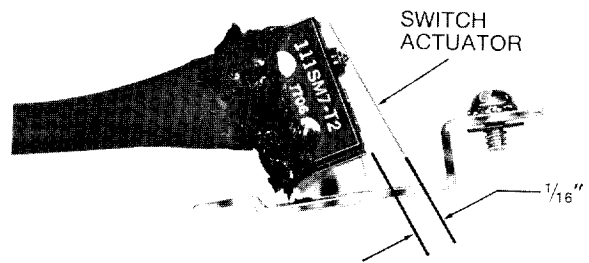

Figure 5
6. Use a screwdriver to slide the bell alarm switch against the breaker trigger, until the switch actuator is depressed to within 1/64 to 1/16 inch of the switch body (Figure 5). Tighten the screw.